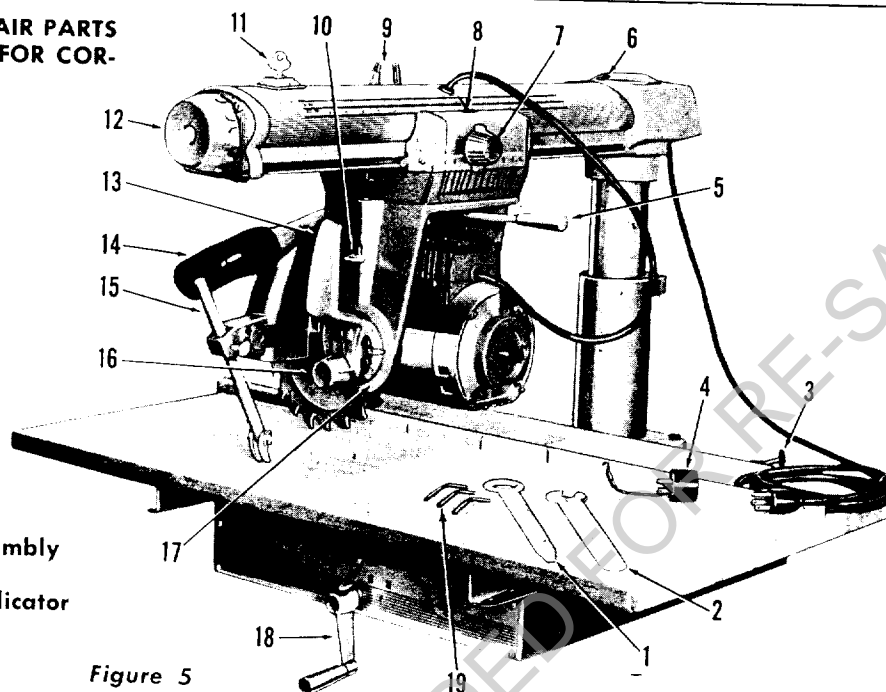
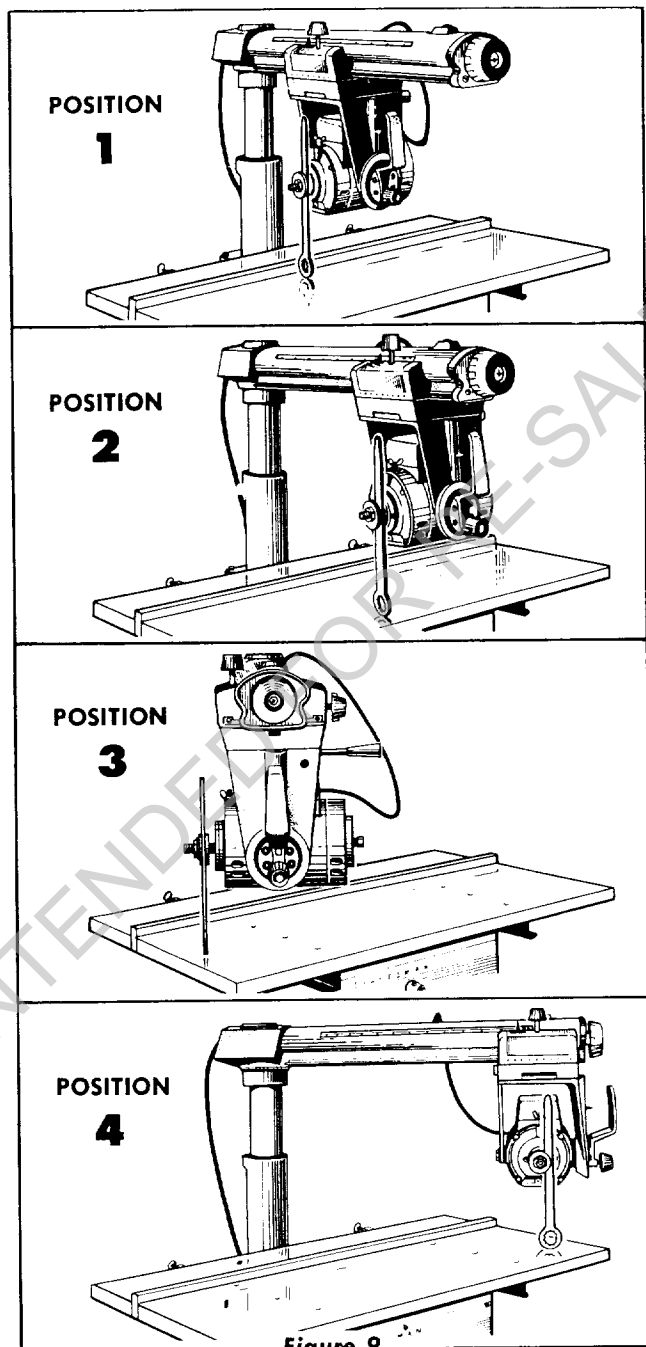

Figure 5
Figure 9
3. Insert arbor wrench between collars on motor shaft. See Figure 9. Tighten shaft nut by hand.
4. Loosen carriage lock knob (Item 7, figure 5) and turn elevation crank until end of arbor wrench just touches the table top thus permitting the wrench to be swung back and forth. See Position 1, Figure 9.
Do not turn the elevation crank throughout the remainder of this procedure as the radial arm must remain at the same height above the table while checking at Positions 1, 2, 3 and 4 of Figure 9.
6. Turn arm latch handle (Item 12, figure 5) counterclockwise and pull out. Move arm to Position 3 of Figure 9. Repeat procedure of step 5.
7. Move radial arm to Position 4 of Figure 9 and repeat above procedure.
3. When channels are properly adjusted the arbor wrench will just contact the table top when swung back and forth at Positions 1, 2, 3, and 4 of Figure 9. Tighten attaching screws (Item 1).
- a. If saw tooth "A" (Figure 15) moves away from the square when moving the blade from the rear to the front of the table, loosen the table bolts on the left side of the table and tighten the left table clamp (Item 3, figure 5).